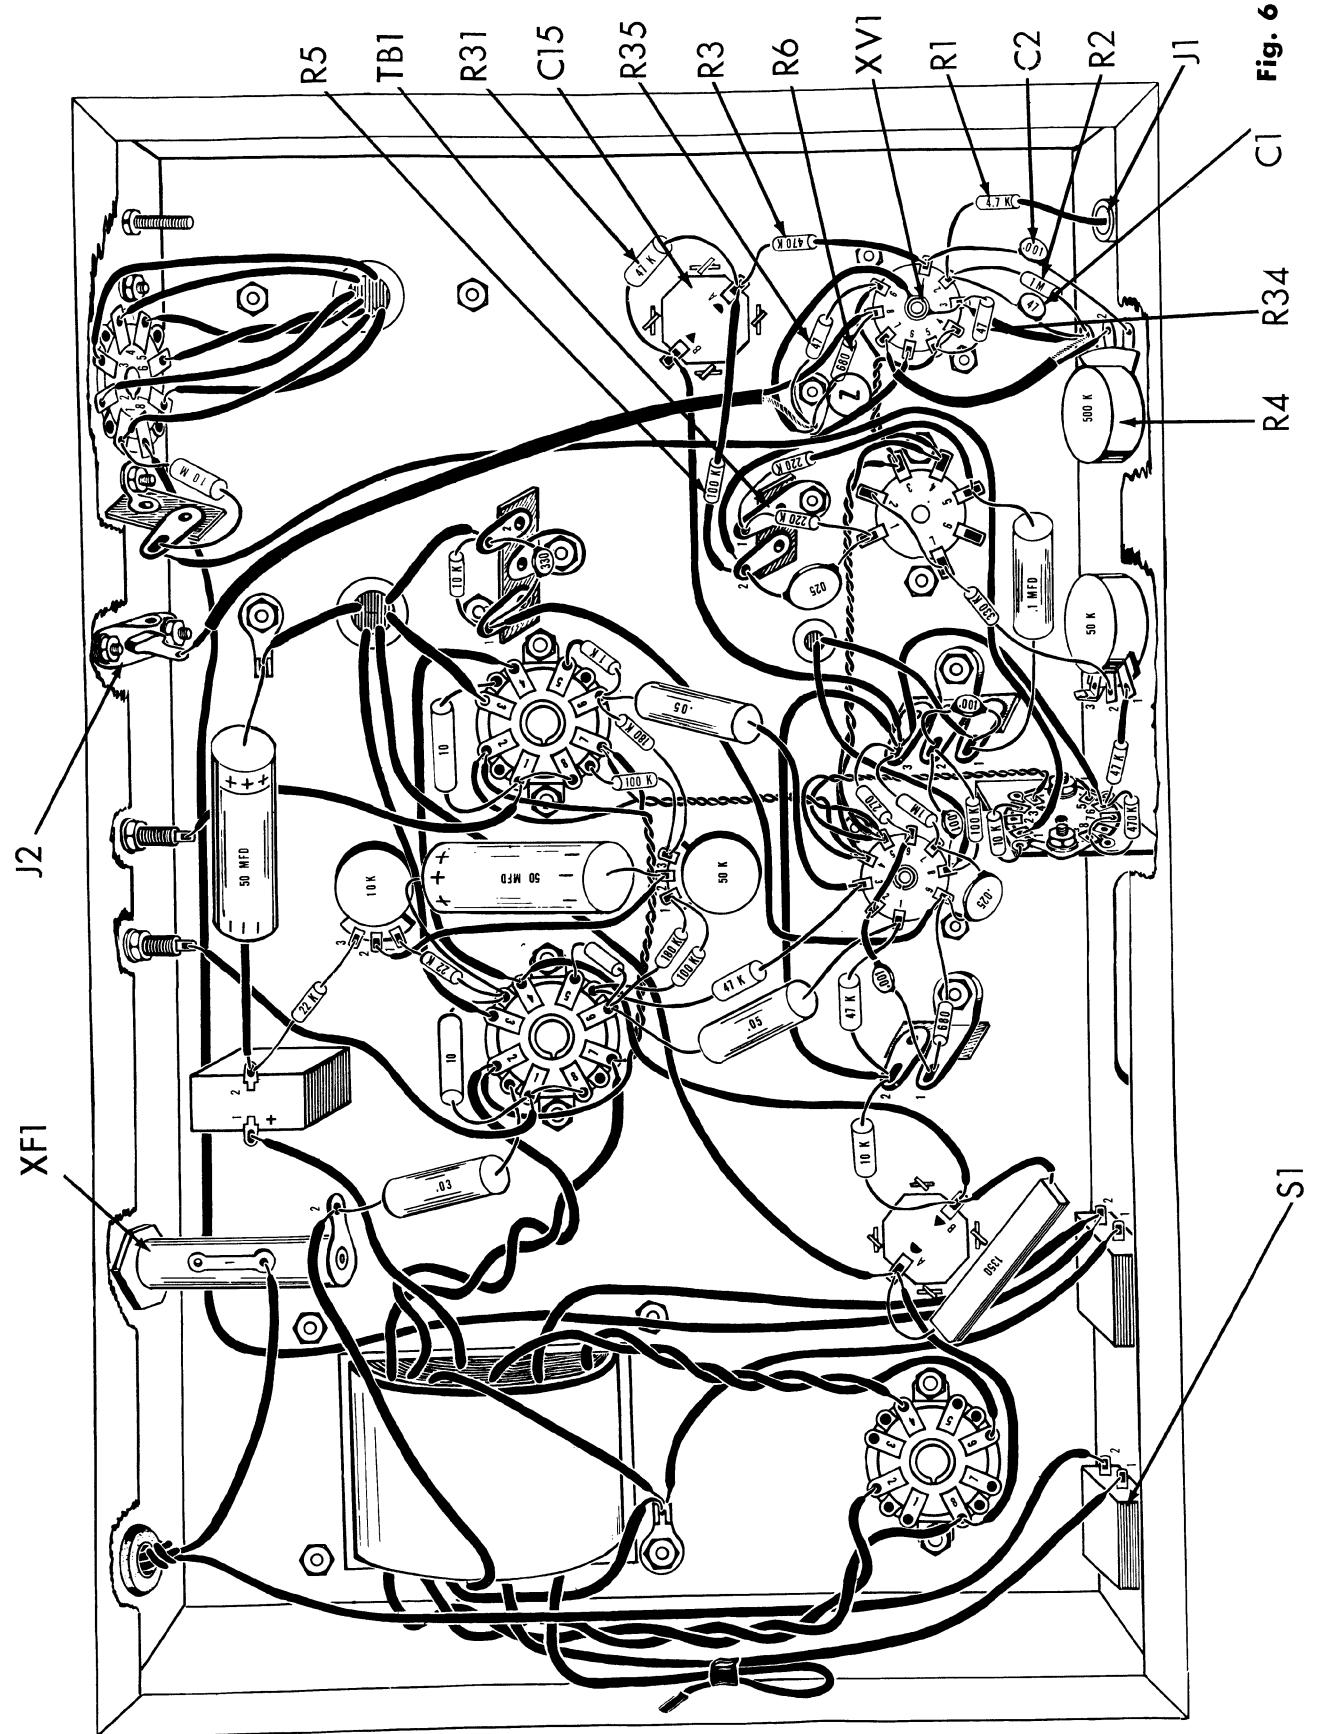

Fig. 6
1. () Fig. 6. Connect a 3" piece of black wire from the center pin of XV1, XV1-10 (C) to ground lug "Z" (C).
2. () Fig. 6. Connect a 3/4" piece of bare wire from the center pin of XV1, XV1-10 (S2) to XV1-3 (C).
3. () Fig. 6. On one end of a 6 1/2" piece of shielded cable, strip the outer insulation back 1/2". Unwrap the shield strands from around the inner conductor and twist the strands together. Cut off these shield strands. Strip the insulation from the inner conductor back 1/4" and connect to J2 (S1).
4. () Fig. 6. Cover each lead of a 100K (brown, black, yellow, silver) resistor, R5, with a 1 1/4" piece of spaghetti. Connect from TB1-2 (S3) to C15-A (C).
5. () Fig. 6. Cut one lead on a 47Ω (yellow, violet, black, silver) resistor, R35, to 3/4" and the remaining lead to 1 1/4". Connect the shorter lead to XV1-9 (S2) and the longer lead to ground lug "Z" (C).
6. () Fig. 6. Cut both leads on a 47Ω (yellow, violet, black, silver) resistor, R35, to 1/2". Connect from XV1-3 (C) to XV1-5 (C).
7. () Fig. 6. Connect a 1/2" piece of bare wire from XV1-5 (S3) to XV1-4 (S1).
8. () Fig. 6. Cut one lead on a 680Ω (blue, grey, brown, silver) resistor, R6 to 1/2" and the remaining lead to 1". Connect the shorter lead to XV1-8 (S2) and the longer lead to ground lug "Z" (S4).
9. () Fig. 6. Cut both leads on a $47K$ (yellow, violet, orange, silver) 1 watt resistor, R31, to 3/4". Connect from C15-A (C) to C15-B (S2).
10. () Fig. 6. Cut both leads on a $470K$ (yellow, violet, yellow, silver) resistor, R3, to 1". Cover one lead with a 3/4" piece of spaghetti and connect to XV1-1 (C). Connect the remaining lead to C15-A (S3).
11. () Fig. 6. Cut both leads on a 1M (brown, black, green, silver) resistor, R2, to 3/4". Connect from R4-1 (C) to XV1-2 (C).
12. () Fig. 6. Cut both leads on a 47 mmf disc capacitor, C1, to 1". Connect from R4-1 (C) to XV1-2 (C).
13. () Fig. 6. On one end of a 3 1/2" piece of shield cable, strip the outer insulation back 1/2". Unwrap the shield strands from around the inner conductor and twist the strands together. Cut off these shield strands. Strip the insulation from the inner conductor back 1/4" and connect to XV1-7 (S1).
14. () Fig. 6. Cut one lead on a 4.7K (yellow, violet, red, silver) resistor, R1, to 1 1/4". Cover this lead with a 1 1/8" piece of spaghetti. Push this lead through the hole at the center of input jack J1. Solder this lead to the inner conductor being careful not to use too much solder, to prevent the excess from flowing into the jack. Form a rounded surface with the solder over the center post of jack J2. Let the solder cool without moving the resistor to prevent making a cold solder connection. Cut the other end of the resistor to 3/4" and connect to XV1-2 (S3).
15. () Fig. 6. Cut both leads on a .001 mfd (.1K or 1000 nmf) disc capacitor, C2, to 1 1/4". Cover one lead with a 1" piece of spaghetti and connect to XV1-1 (S2). Connect the other lead to R4-3 (S1).
16. () Fig. 6. Push the line cord through the grommet at the rear of the chassis, and make a knot in the line cord 8" from the solder end of the cord, inside the chassis. Separate the two leads. Connect one lead to S1-2 (S1). Cut the remaining lead to 4", and connect to XF1-1 (S1).
17. () Fig. 6. Connect a 2" piece of black wire from XV1-3 (S3) to R4-1 (S4).